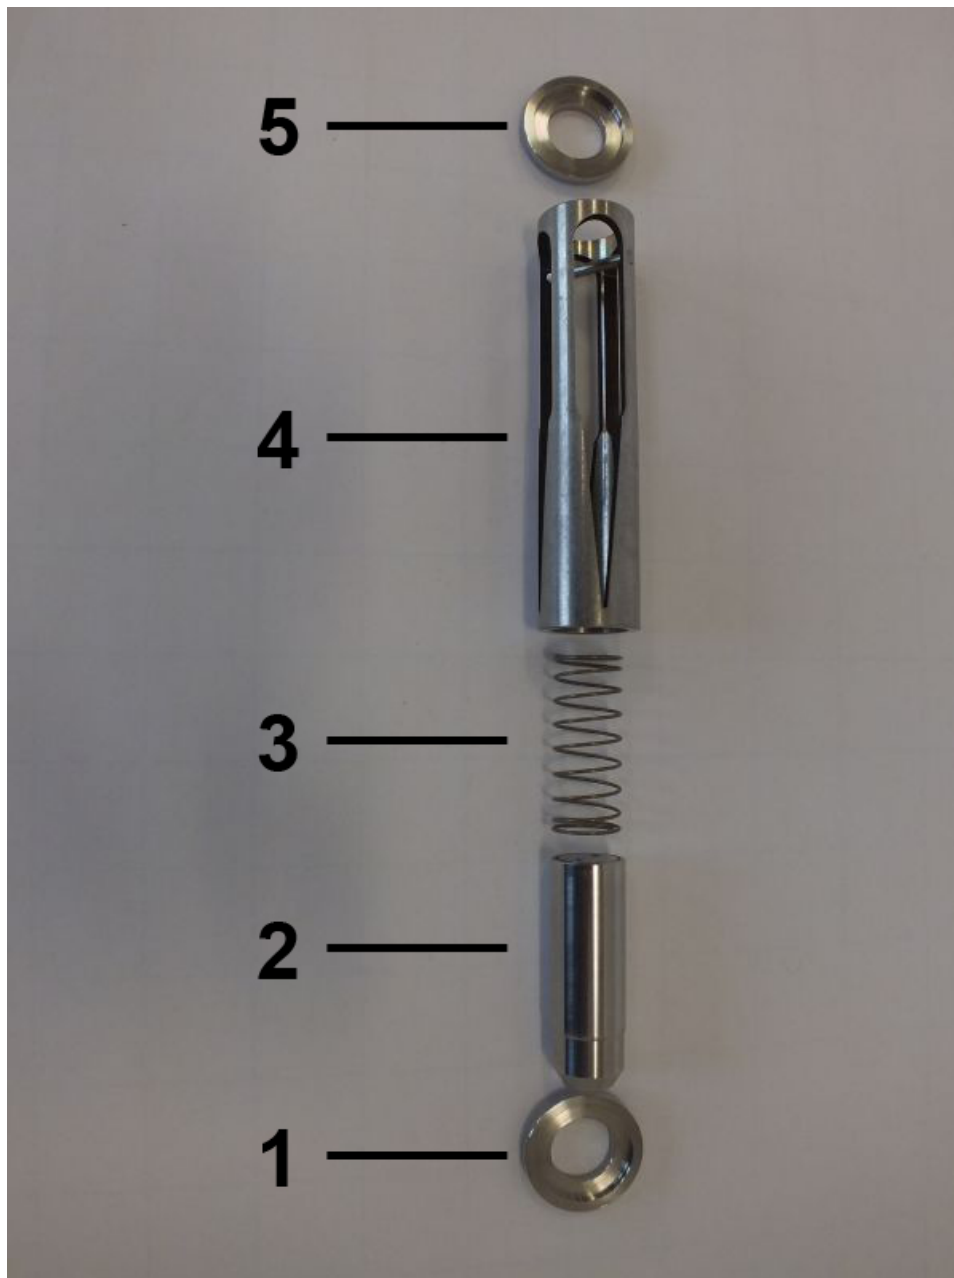

Fig. 45: Inner parts DUM
5. The inner parts of the flow monitor consist of the centering disc (inlet) (Fig. 45/1), float (Fig. 45/2), spring (Fig. 45/3), slot nozzle (Fig. 45/4) and centering disc (outlet) (Fig. 45/5).